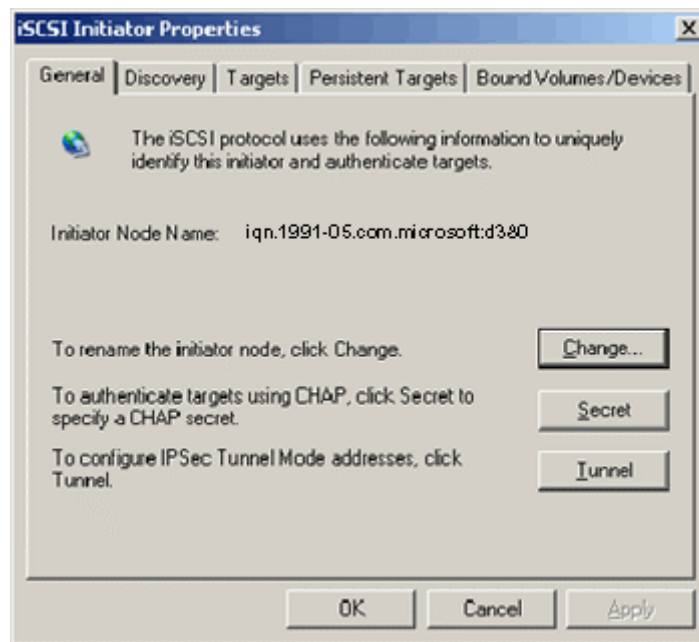

Figure 11-7. iSCSI Initiator Properties: General Page
2. Configure the initiator IQN name according to your setup. On the iSCSI Initiator Properties, General page (see Figure 11-7), click **Change**.